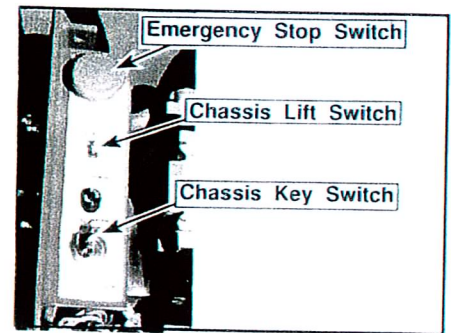

Figure 2: European Chassis Control Panel
10. If equipped, turn the Chassis Key Switch (Figure 2) to **CHASSIS**.
15. If equipped, turn the Chassis Key Switch (Figure 2) to **DECK**.